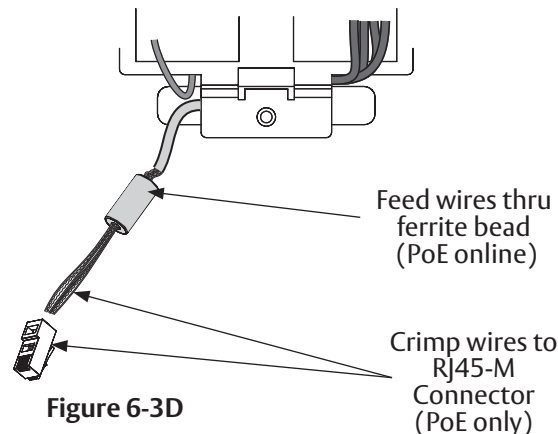

Figure 6-3D
1. Strip Ethernet cable jacket (3) inches.
2. Separate (untwist) and straighten (8) Ethernet wires before carefully feeding through ferrite bead (Figure 6-3D).